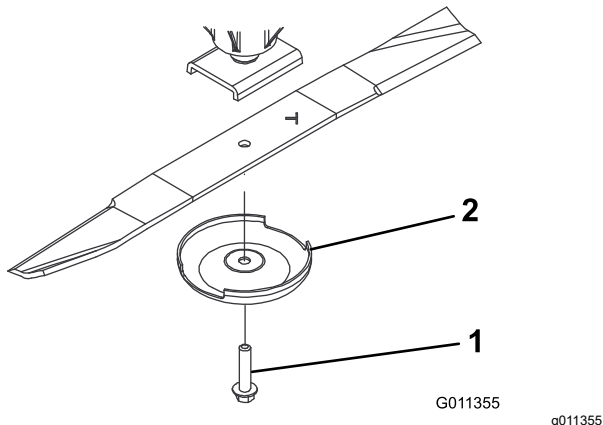

Figure 16
3. Remove the blade bolt, anti-scalp cup, and blade from the spindle shaft (Figure 16).